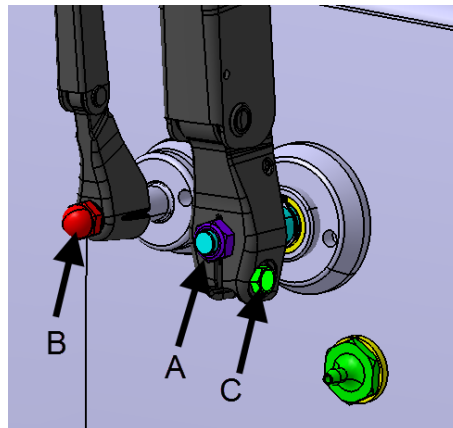

FIGURE 5
4. Loosen nut C and then remove nut A & B (FIGURE 5).